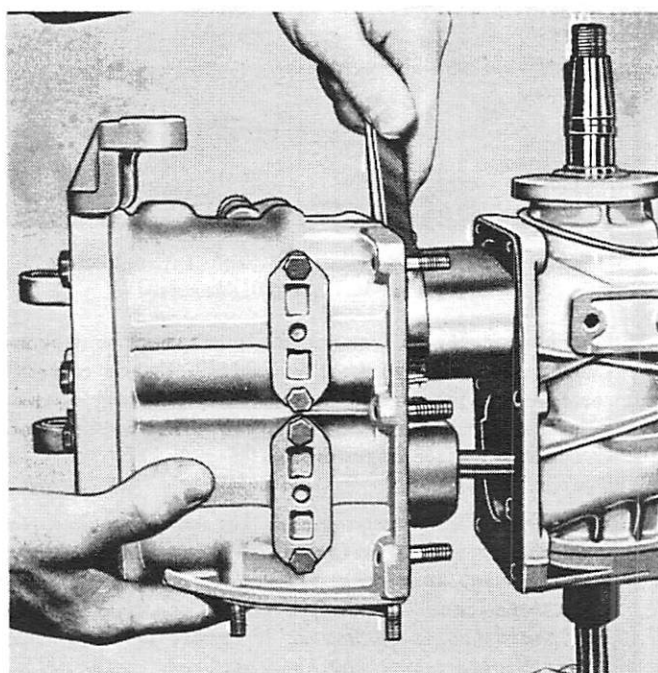

Figure 18. Replacing Cylinder Block
3. Check that new gasket is installed before replacing cylinder block on crankcase. (Figure 18)